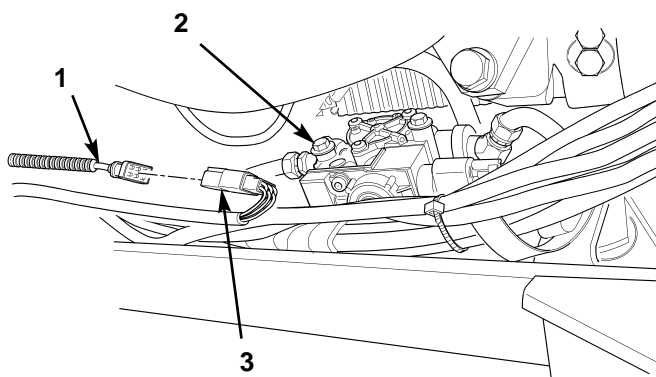

Figure 10. Connecting Wheel Sensor Cable to Front Axle.
5. Route end of wheel sensor cable (figure 10, item 1) to front modulator (figure 10, item 2) as noted during removal.
6. Connect wheel sensor cable (figure 10, item 1) to front wheel sensor harness (figure 10, item 3) located inside frame rail adjacent to front modulator (figure 10, item 2).
7. Secure wheel sensor cable (figure 10, item 1) with additional tie straps as noted during removal.